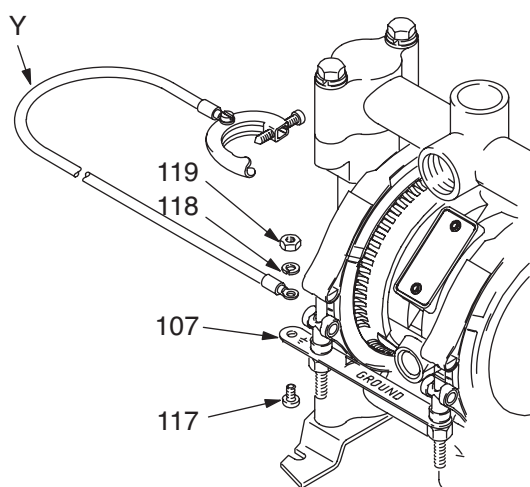

FIG. 1
Pump: Attach ground wire (Y) to the grounding strip (107) with the screw (117), lockwasher (118) and nut (119), as shown in FIG. 1. Connect the clamp end of a ground wire to a true earth ground. To order a ground wire and clamp, order Part No. 222011.